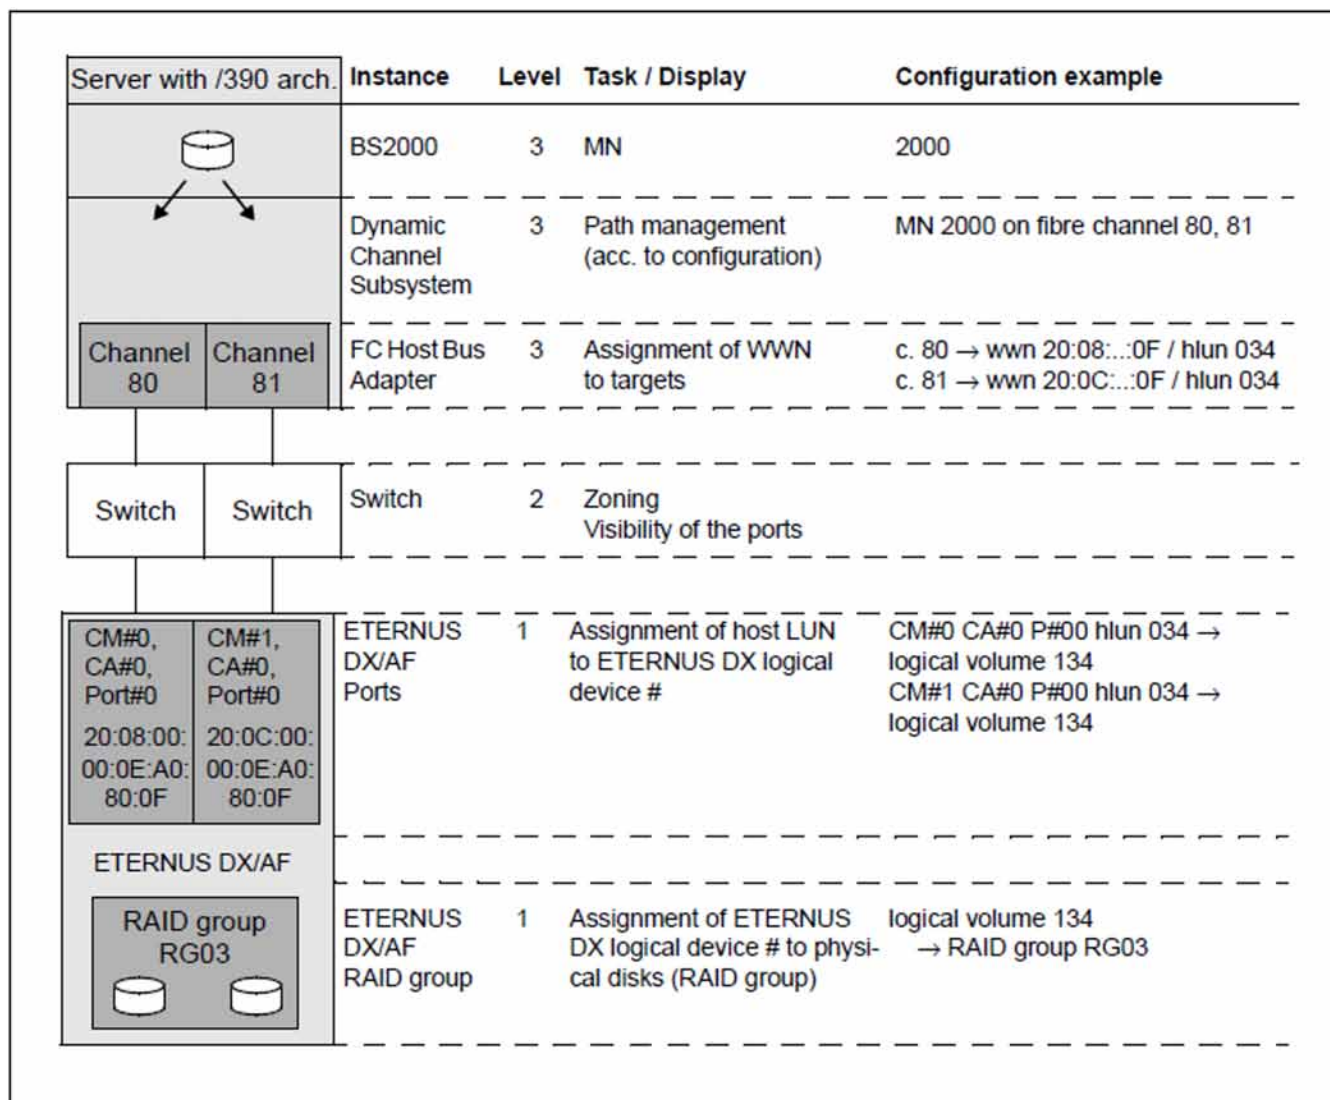

Figure 4: Configuration of the units on /390 servers for ETERNUS DX/AF
BS2000 volumes connected to a /390 server via a channel must be configured on storage system (1), switch (2) and BS2000 (3) levels (the level numbers as used in figure 4 are in parentheses). The figure shows the various levels, taking ETERNUS CONFIG as an example. The same applies for Symmetrix/ VMAX3. The WWN of the Fibre Channel port (WWPN) of the storage system must be set for the channel at generation.